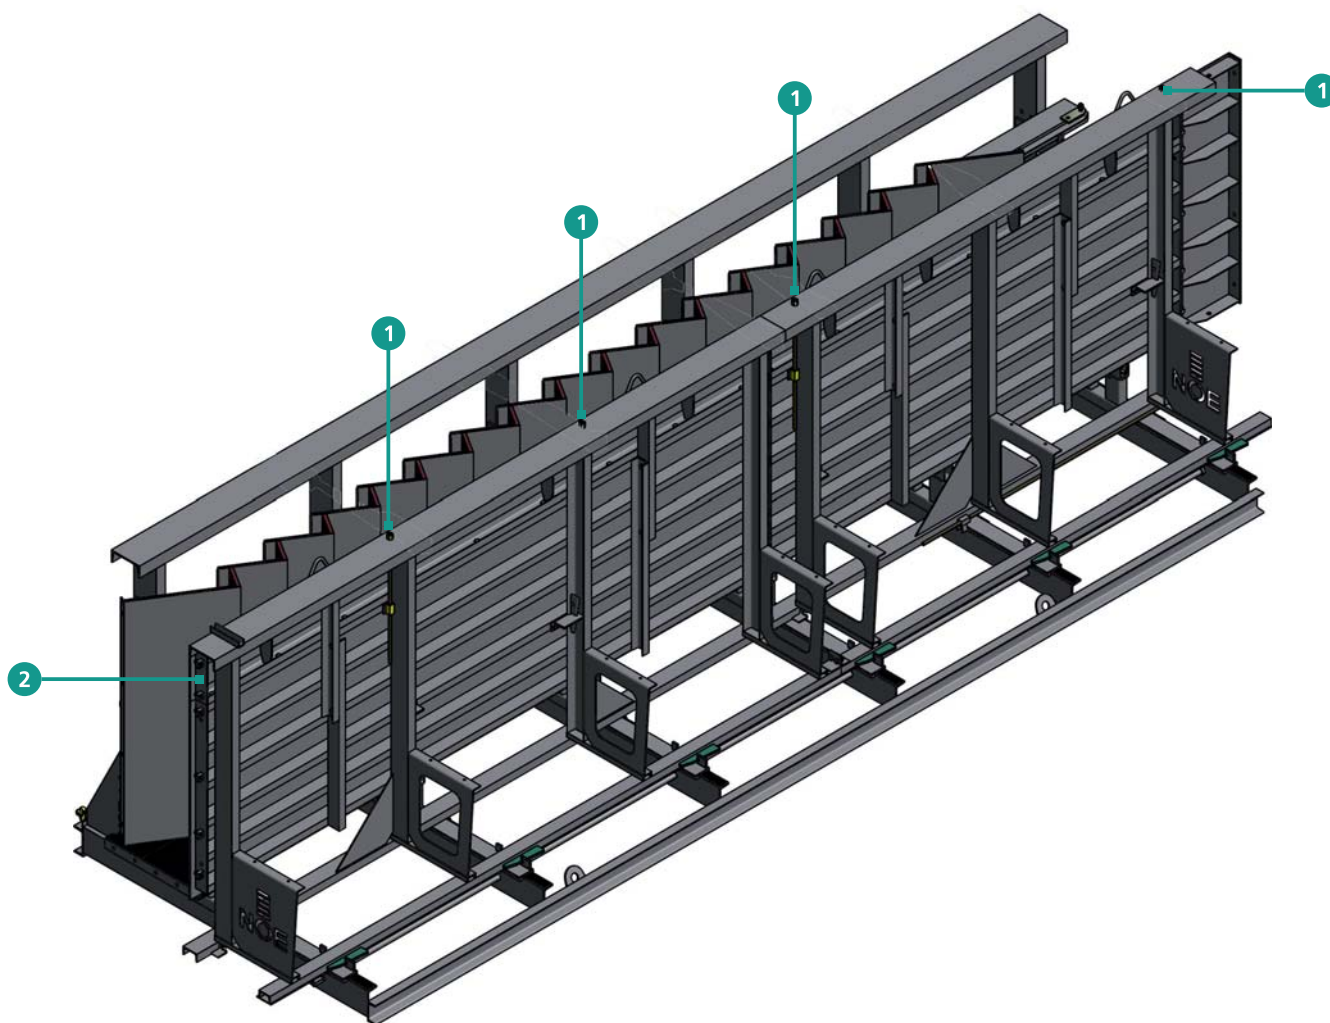

Figure 11
The back wall can be moved up and down on spindles to set the stair width (LB) (Figure 11).